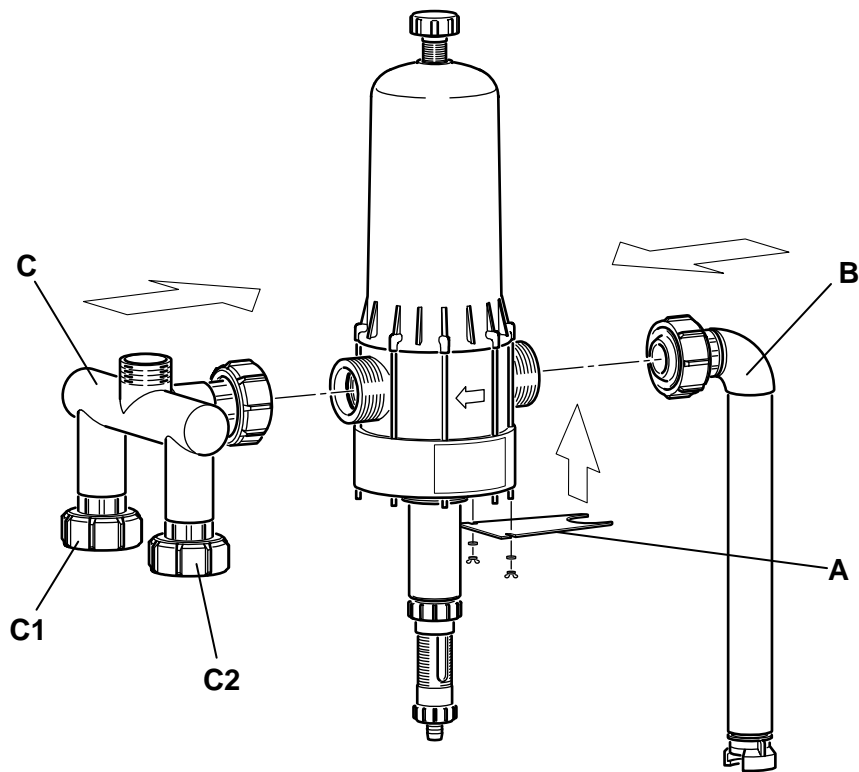

Fig. 3
- 1/** Fit the anti-rotation plate (**Fig. 3 - A**) to the injector using the wing-nuts and washers supplied.
- 2/** Fit the injector inlet tube (**Fig. 3 - B**) to the injector inlet (note direction of arrow or injector).
- 3/** Fit the stainless outlet manifold (**Fig. 3 - C**) to the injector outlet with the 2 coupling nuts pointing downwards (**Fig. 3 - C1 and C2**).